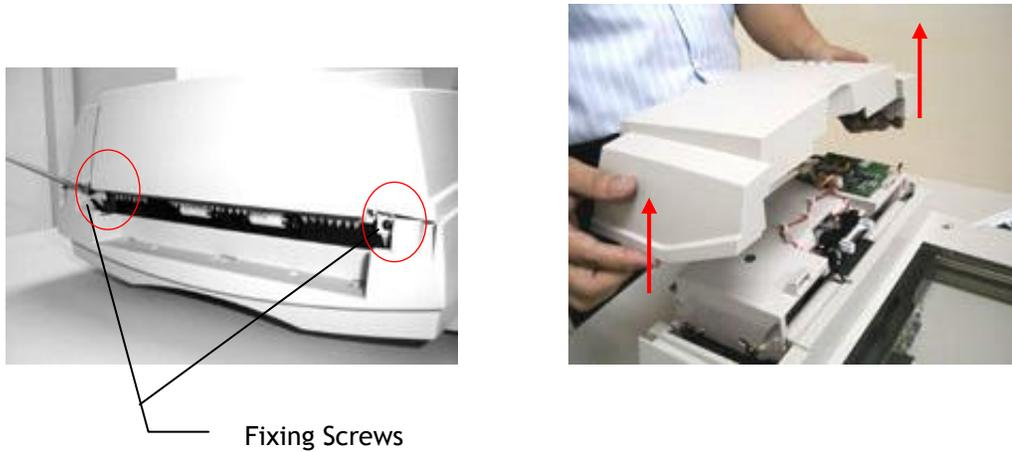

Figure 4.15a ADF Cover Removal
3. Fasten the fixing screws. (see Figure 4.15a)